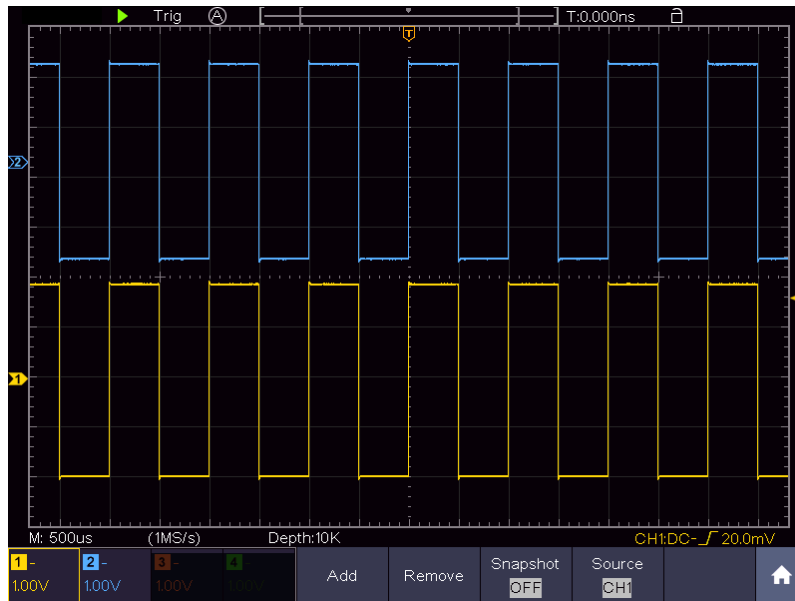

Figure 7-2 Waveform of Gain Measurement
- (1) Push the **Autoset** button and the oscilloscope will automatically adjust the waveforms of the two channels into the proper display state.
- (2) Push the **Measure** button to show the Measure menu.
- (3) Select **Add** in the bottom menu.
- (4) In the left Type menu, turn the **M** knob to select **PK-PK**.
- (5) In the right menu, select **CH1** in the **Source** menu item.
- (6) In the right menu, select **Add**. The peak-to-peak type of CH1 is added.
- (7) In the left Type menu, turn the **M** knob to select **PK-PK**.
- (8) In the right menu, select **CH2** in the **Source** menu item.
- (9) In the right menu, select **Add**. The peak-to-peak type of CH2 is added.
- (10) Read the peak-to-peak voltages of Channel 1 and Channel 2 from the bottom left of the screen (see *Figure 7-2*).
- (11) Calculate the amplifier gain with the following formulas.